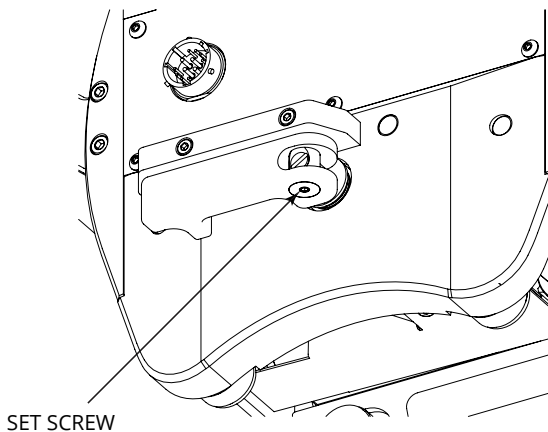

FIGURE 20 - Latch Set Screw
2. Next, loosen the set screw on the bottom of the latch assembly – see **Figure 20 - Latch Set Screw**.